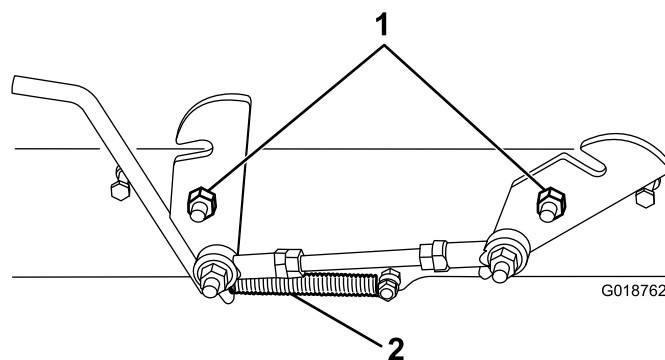

Figure 1
1. Hook the spring onto the catch (Figure 1).